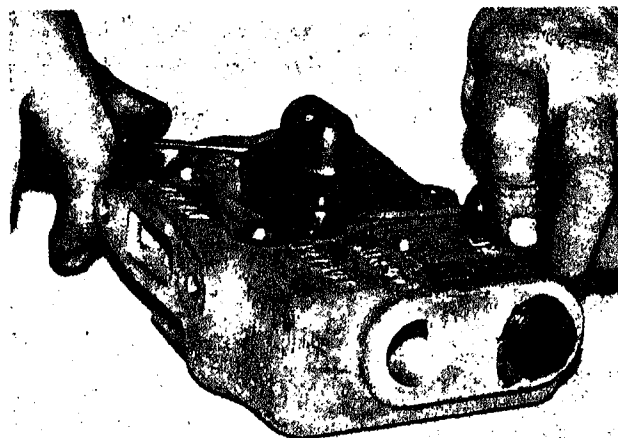

Fig. 12-2-1. Remove unloader valve assembly
3. Loosen capscrews and remove unloader valve assembly from cylinder head by prying loose with **two screwdrivers**. Fig. 12-2-1.